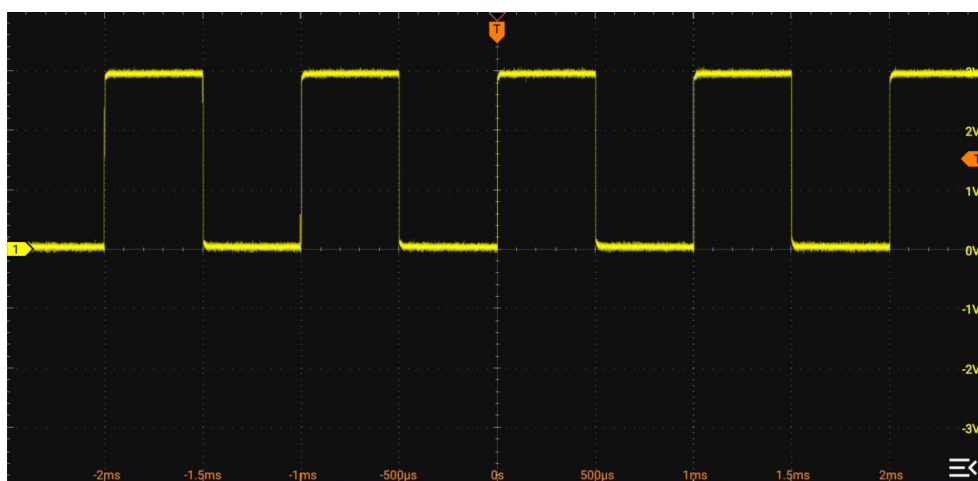

**Figure 4.12 Use the Compensation Signal**
2. Connect the ground alligator clip of the probe to the "Ground Terminal" as shown in *Figure 4.12*.
3. Use the probe to connect the input terminal of CH1 and the "Compensation Signal Output Terminal" of the probe, as shown in *Figure 4.12*.